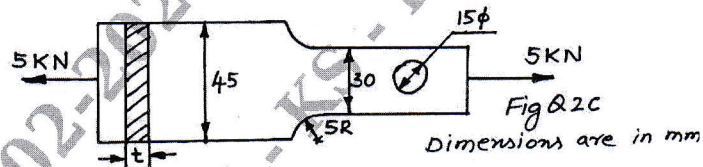

Fig. Q2 (c)
c. A flat plate subjected to a tensile force of 5 kN is shown in Fig. Q2 (c). The plate material is Grey Cast Iron FG200 ( $\sigma_{ut} = 200$  MPa) and factor of safety is 2.5. Determine the thickness of the plate.